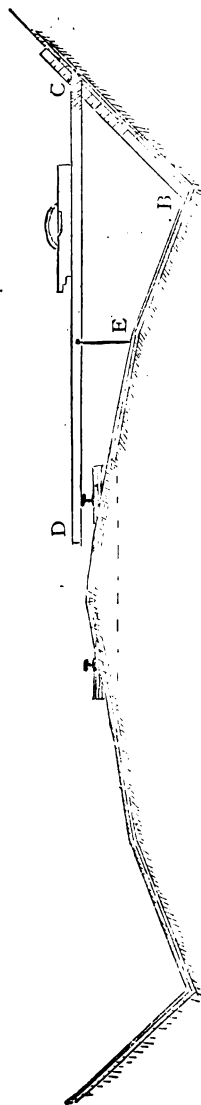

Fig. 3.
18. A simple device, like that shown in Fig. 3, is very handy for foremen to use when ditching. It can be made as follows: Use for the long piece a straight edge 1x4 inches, twelve feet